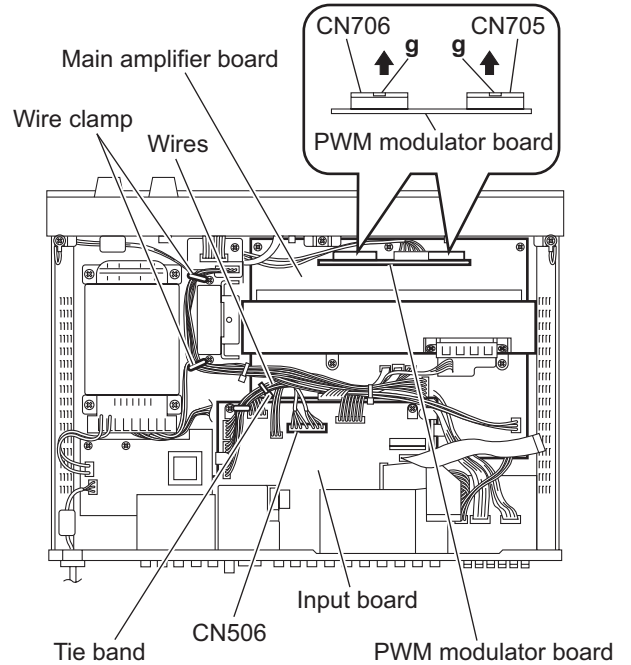

Fig.18
3.14 Removing the PWM modulator board (See Fig.18.)